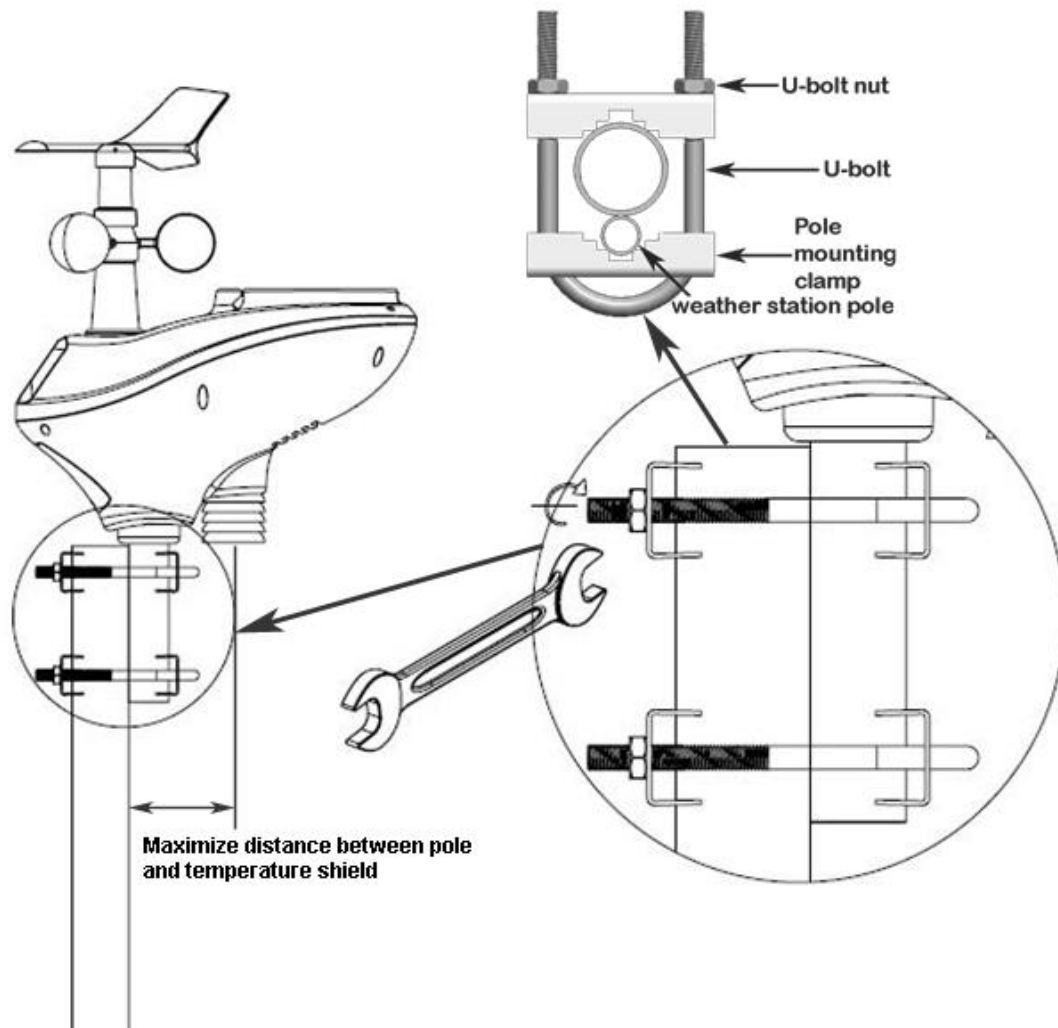

Figure 7
A. Option 1: Mounting Clamps. Fasten the mounting pole to your mounting pole or bracket (purchased separately) with the two U-bolts, mounting pole brackets and nuts, as shown in Figure 7. Tighten the mounting pole to your mounting pole with the U-Bolt assembly. Make sure your mounting pole is as far away from the temperature sensor as possible, as shown in Figure 7.